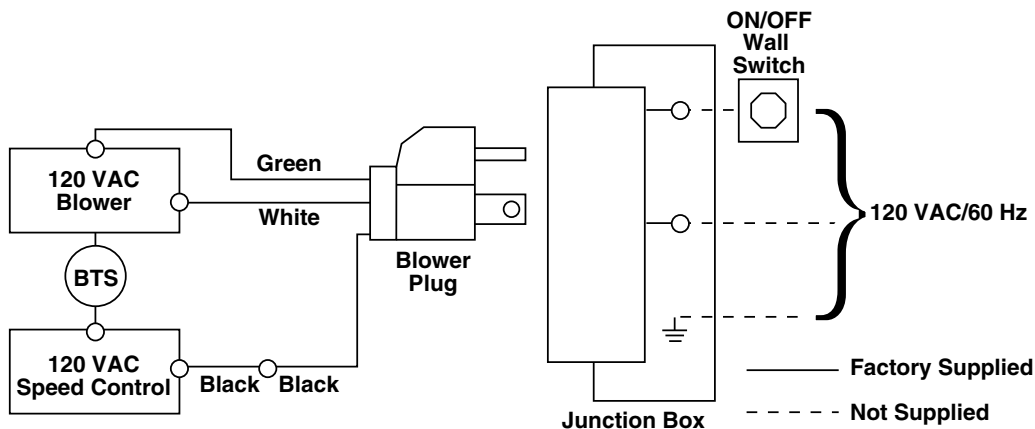

Figure 25 - Wiring Diagram for Junction Box
3. The junction box cover has a factory-installed “romex” style strain relief connector. Connect the wires according to the wiring diagram below. Route the connected wire leads through the strain relief connector. See Figure 25.
9. Attach one end of BTS wire to blower. Attach other end of BTS wire to speed control. *See Figure 25, page 17.*